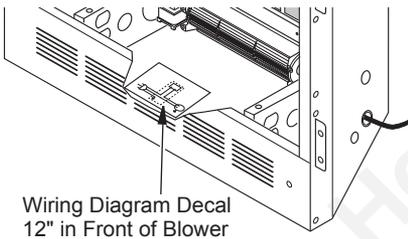

Figure 43 - Location of Wiring Diagram Decal (Model May Vary From Illustration)
10. Peel off backing paper and stick supplied wiring diagram decal on firebox bottom approximately 12" in front of blower (see Figure 43).
11. Peel off backing paper and stick supplied wiring diagram decal on firebox bottom approximately 12" in front of blower (see Figure 43, page 22).